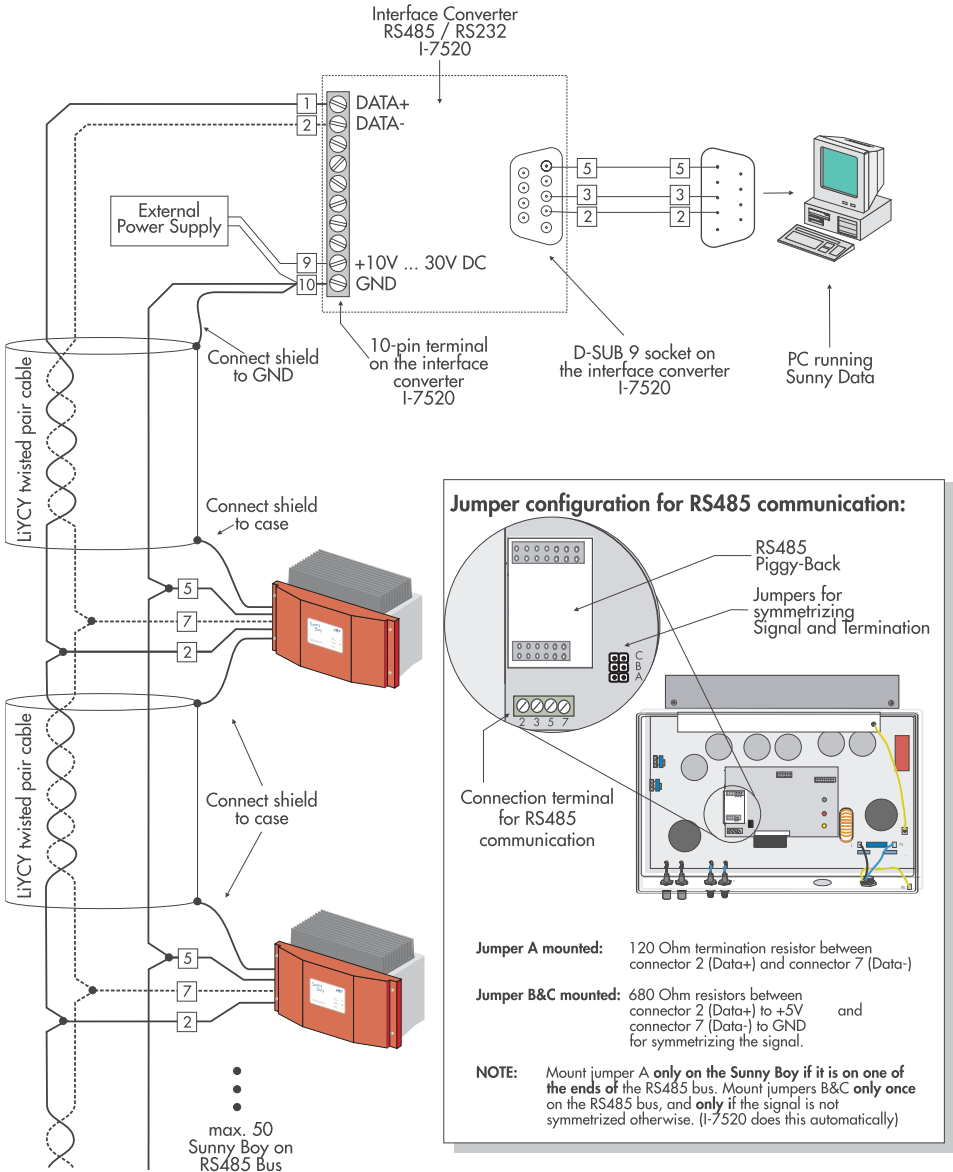

Fig. 7.2: One or several Sunny Boys connected with an RS485 cable to a PC with interface converter.
2. Now attach one of the two plug connectors delivered to the data cable. Connect the wires of one twisted pair to terminals 2 and 7 on the communication slot (see Fig. 7.2: "One or several Sunny Boys connected with an RS485 cable to a PC with interface converter." (p. 30)). **Write down which wire is connected to which terminal!**